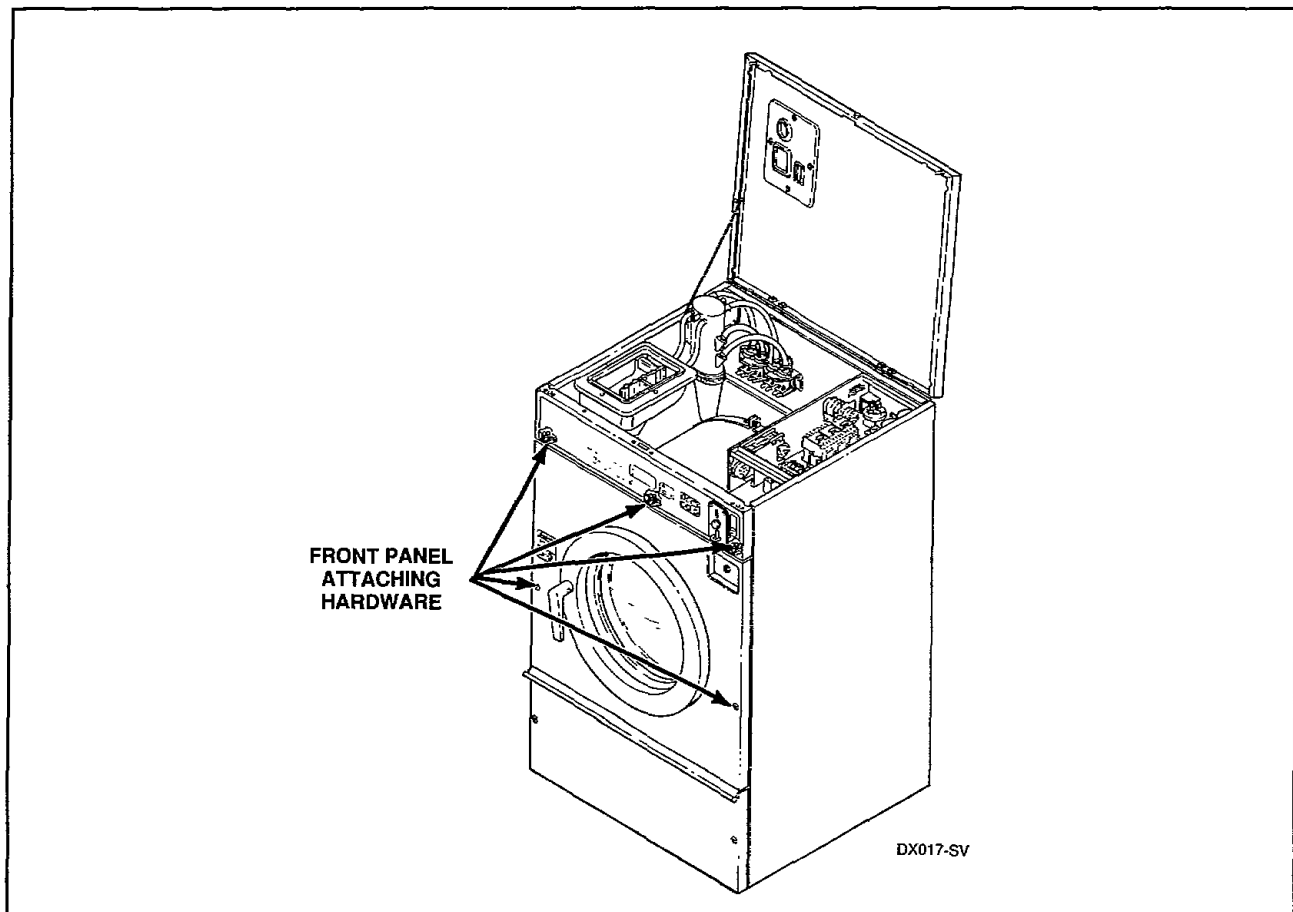

Figure 5
- c. Remove two screws and cupped washers holding front panel to side panel, *Figure 5*.
- d. While supporting front panel, remove three screws, holding top flange of front panel to lower flange of front channel, *Figure 5*, and remove front panel and gasket from washer.
- c. Remove two screws and cupped washers holding front panel to side panels, *Figure 5*.
- d. While supporting front panel, remove three screws holding top flange of front panel to lower flange of front channel, *Figure 5*, and remove front panel and gasket from washer.
- e. Remove screw and cupped washer holding front panel to side panel, *Figure 5*.